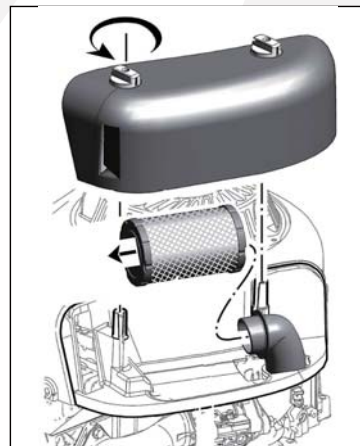

Fig. 36
1. Loosen the fasteners and remove the cover. (Fig. 36)